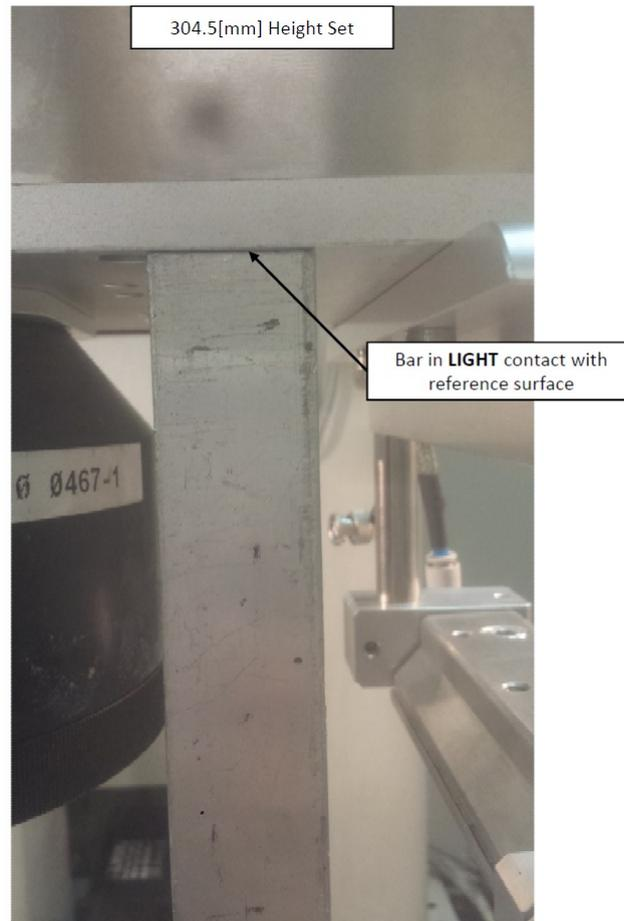

Figure 31: Focal distance setting procedure showing a loose fit between the height standard and the reference surface.
5. (Figure 31) switch the distance to **0.050[mm]** and lower the galvo head onto the height standard until a **light contact** occurs. The height standard should be in contact with the reference surface, but not rigidly in place and should wiggle.